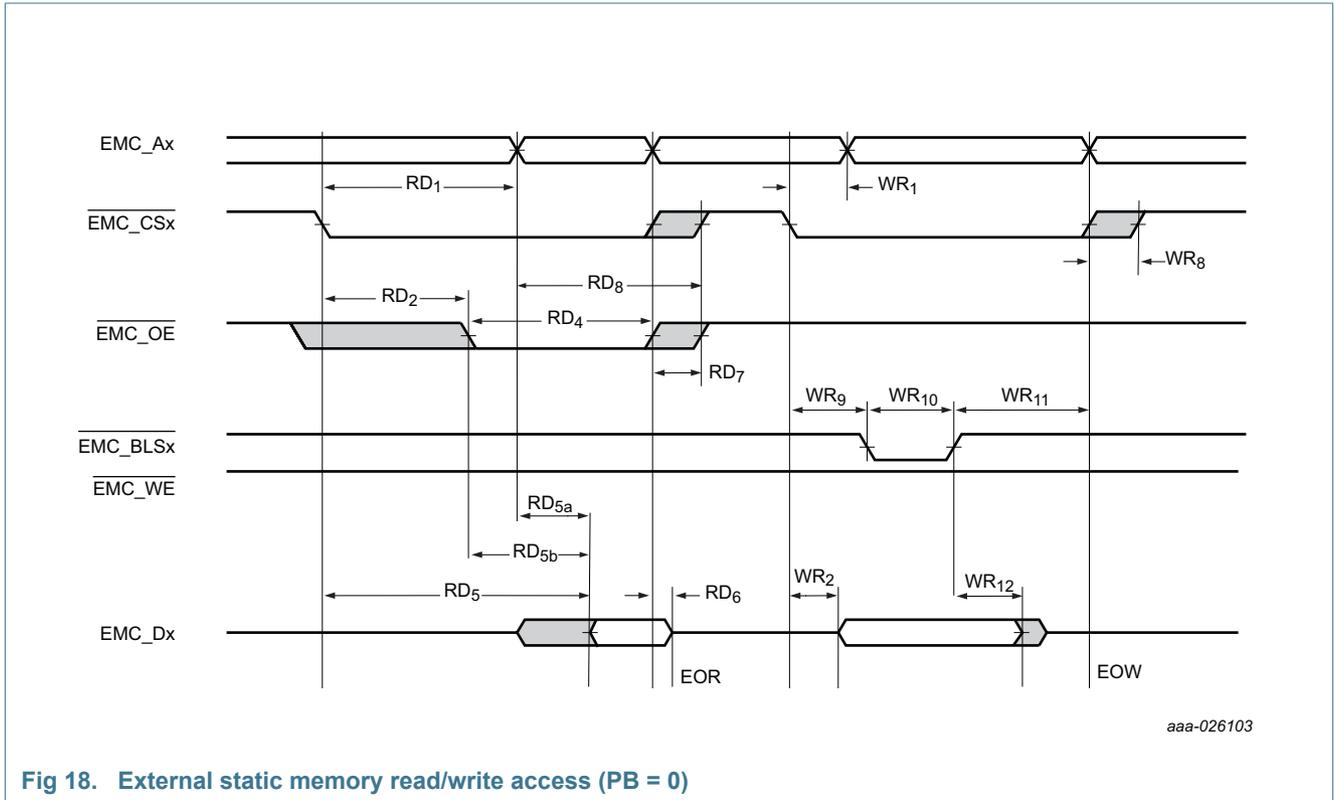

Fig 18. External static memory read/write access (PB = 0)
- [1] Parameters are shown as RD_n or WD_n in Figure 18 as indicated in the Conditions column.
[1] Parameters are shown as RD_n or WD_n in Figure 18 as indicated in the Conditions column.